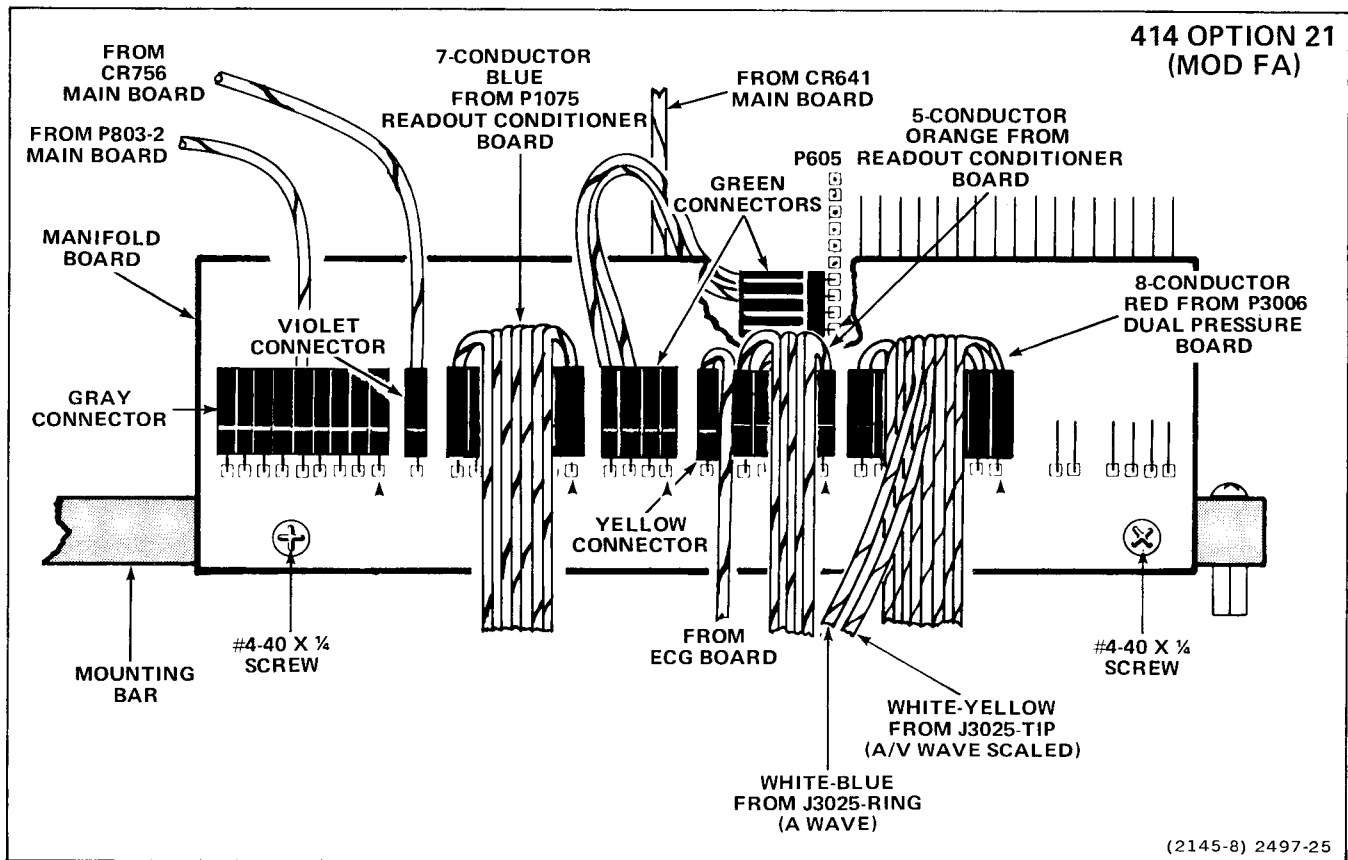

Figure 1-15. Installing Manifold board and connecting cables in 414 Option 21 (MOD FA) Monitor.
16. Connect 2-wire cable (with green connector) to P605, install Manifold board and connect remaining cables. See Figure 1-15.
b. With interconnecting cable folded as shown in Figure 1-15, connect to P4010 on 401 Main board. Note correct location of red stripe.
c. Connect 3-wire cable (with brown connector) to P4060. See Figure 1-15. Be sure to match triangle on connector with one on board.
d. Connect 4-wire cable (with black connector, from P1982 on monitor) to P4050. See Figure 1-15. Be sure pin 1 on the connector (white-brown wire) mates with pin 1 of P4050 (indicated by triangle).
e. Connect 4-wire cable (with black connector from monitor battery pack) to P4040. See Figure 1-15. Be sure pin 1 on the connector (white-brown wire) mates with pin 1 of P4040 (indicated by triangle).